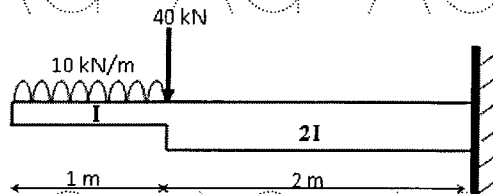

Figure 6
9. Using the conjugate beam method, determine the maximum deflection and the slope at the free end of a beam supported and loaded as shown in Figure 6. [10]